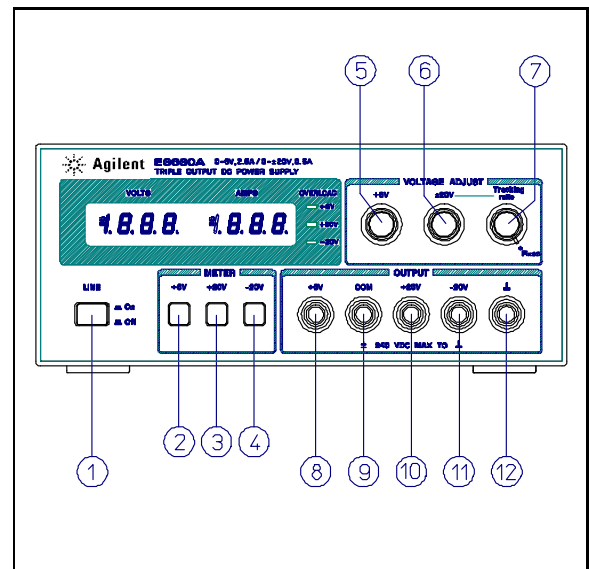

Figure 2. Front-Panel Controls and Indicators
The following steps describe the use of the front panel controls and indicators illustrated in Figure 2 and serve as a brief check that the supply is operational. Follow this checkout procedure or the more detailed performance test of service information section when the instrument is received and before it is connected to any load equipment.
This power supply can be operated individually or in parallel or series with another supply (see Parallel and Series Operation paragraphs). All output terminals are isolated from ground. The ± 20 V and +6 V outputs use a single common output terminal. This common (COM) terminal or any one of the other output terminals may be grounded to the chassis at the front panel ground terminal ⑫ in Figure 2), or all outputs may be left floating. Loads can be connected separately between each of the 0 to ± 20 V output terminals and the COM terminal, or between the -20 V and the +20 V terminals for a 0 to 40 V output. Each output voltage or current can be quickly selected for monitoring with the push-button meter switches.